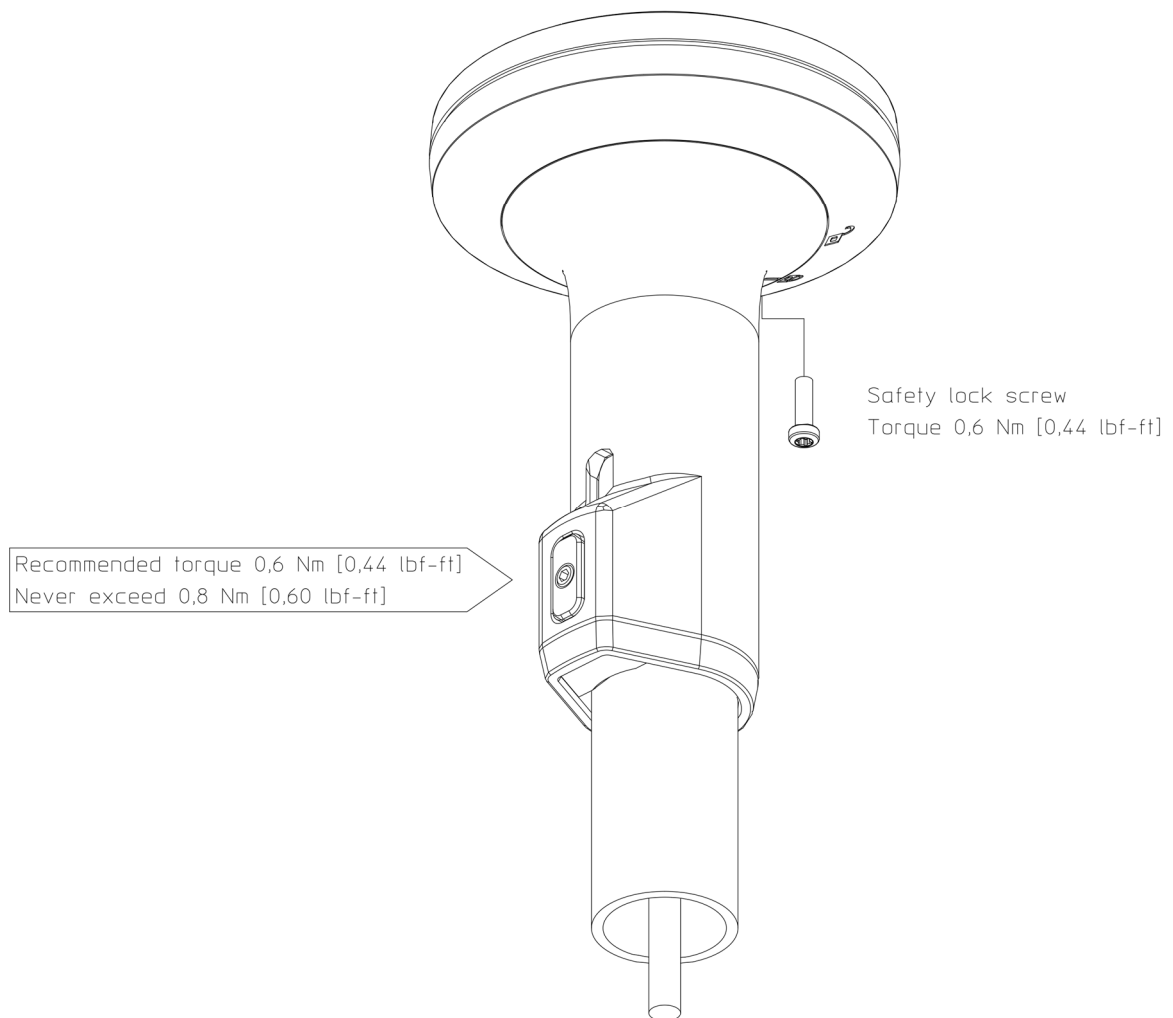

FIGURE 16: POLE MOUNT INSTALLATION STEP 5 (SECURING SCREWS)
Step 5: Fasten the pole mount by securing the two screws as illustrated in Figure 16 (pinol and safety lock screw).